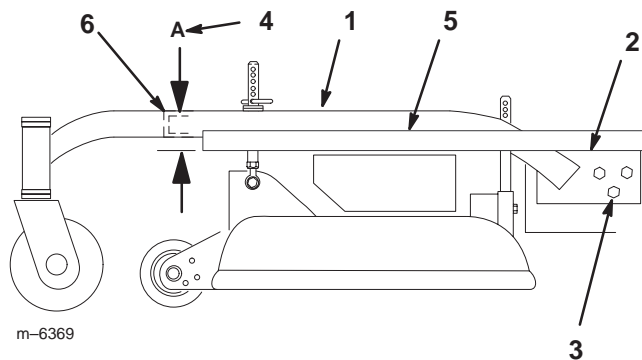

Figure 50
- Place a long straight edge on top of the engine deck as shown in figure 50.
- At the carrier frame cross tube, measure location **A** height (Fig. 50). This measurement must be 1–5/16 inch (33 mm), plus or minus a 1/4 inch (6 mm).
- Loosen the carrier frame mounting bolts on both sides of the machine (Fig. 50).
- Align the carrier frame and engine deck to match 1–5/16 inch (33 mm), plus or minus a 1/4 inch (6 mm) at location **A** (Fig. 50).